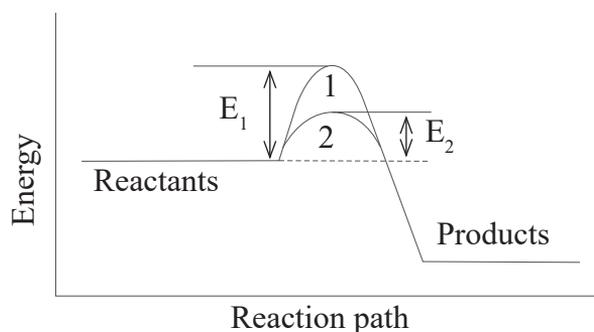

Fig 3.8: Energy level diagram showing effect of a catalyst on the activation energy of reactions.
1. From the graph in Fig 3.8 above,